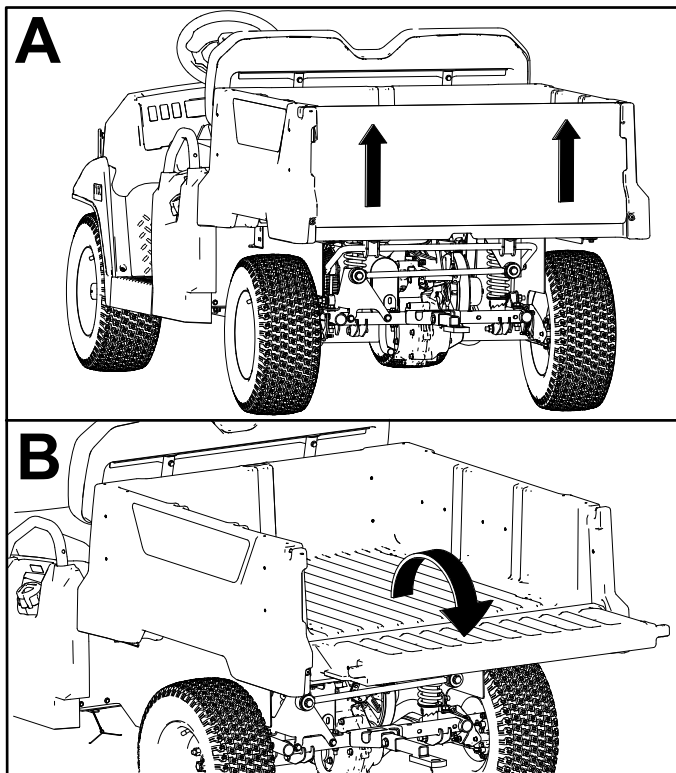

Figure 19
2. Using both hands, raise the tailgate using the ridge near the top of the tailgate (Figure 19).
3. Lower the tailgate until it is flush with the bottom of the cargo bed (Figure 19).